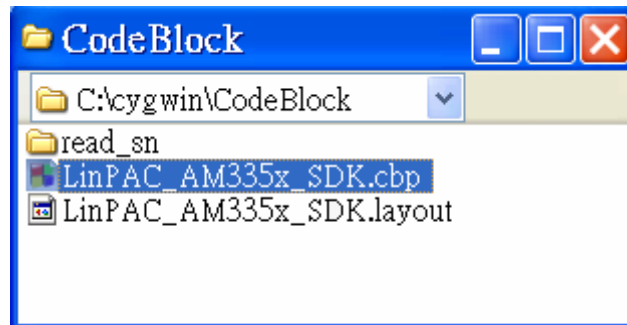

Fig. 2-18
- ❑ Open the **C:\cygwin\CodeBlock** folder, and double click the "**LinPAC_AM335x_SDK**" as below (refer to Fig. 2-18):